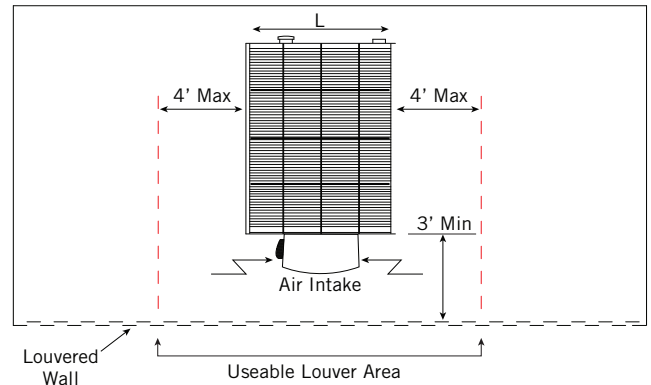

Figure 12. Plan View of Single Air Intake Unit in Enclosure with Louvered Walls and Closed Top Installation
- Install the cooling tower with the limitations shown in **Figure 12** for uniform air distribution.